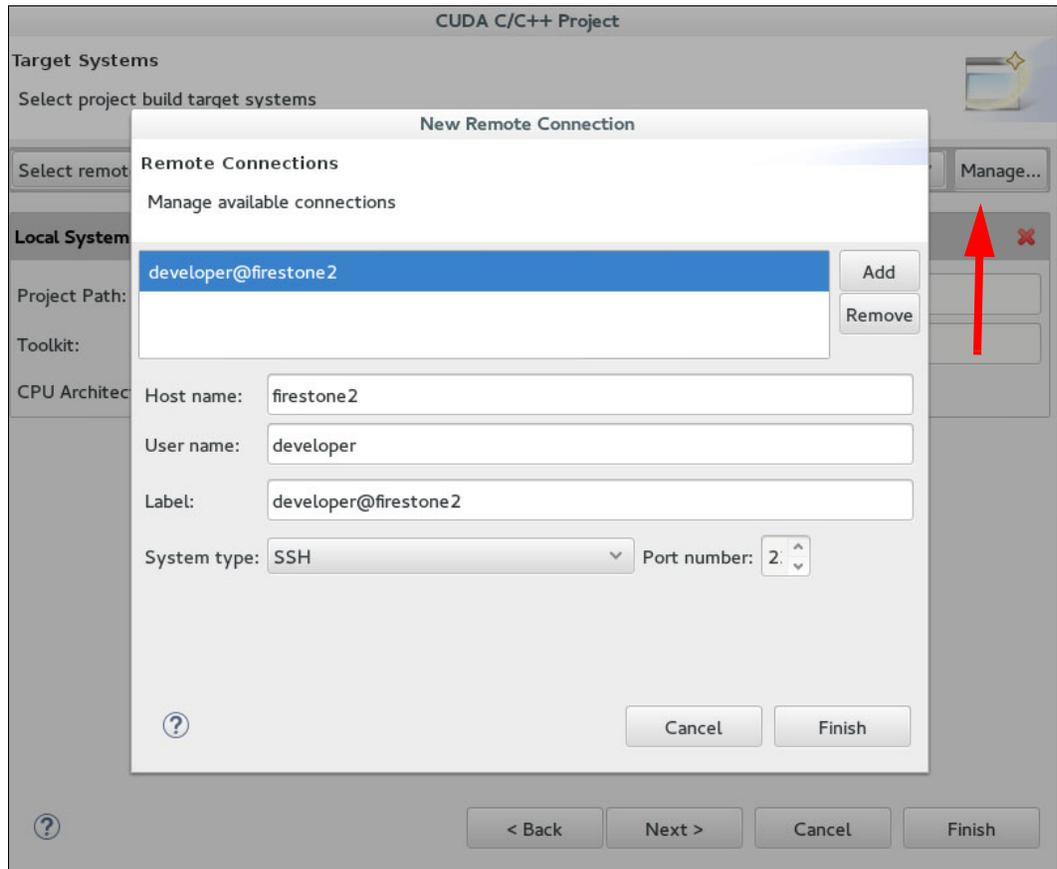

Figure 4-34 Nsight: New CUDA C/C++ project remote connection setup
4. Click **Manage** (as shown in Figure 4-34) to configure a new connection to the remote machine.
5. As shown in Figure 4-34, enter the connection information fields (host name and user name). Click **OK**.